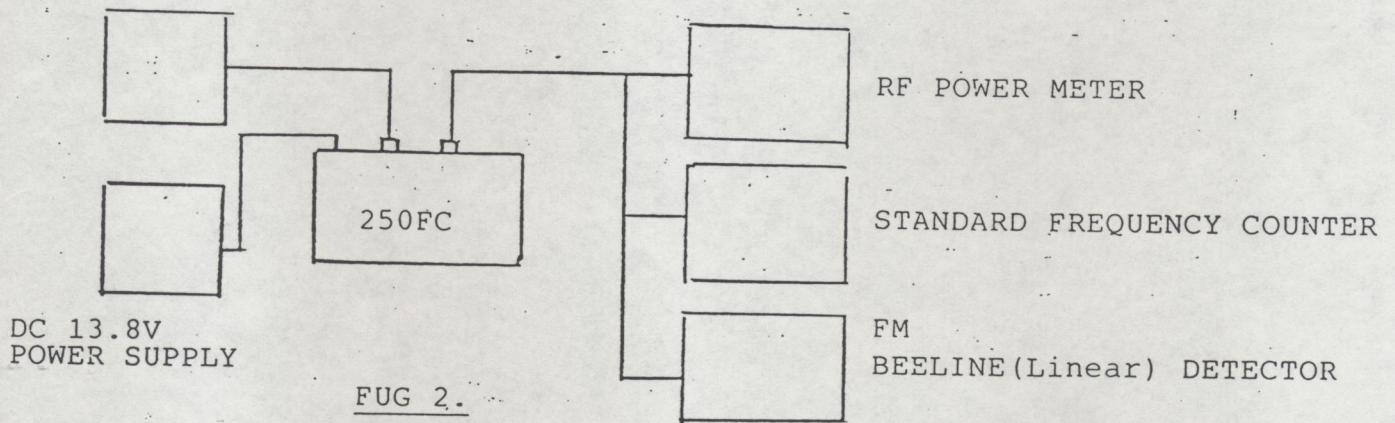

FIG 2.
1. Connect test equipments pursuant to Fig 2.